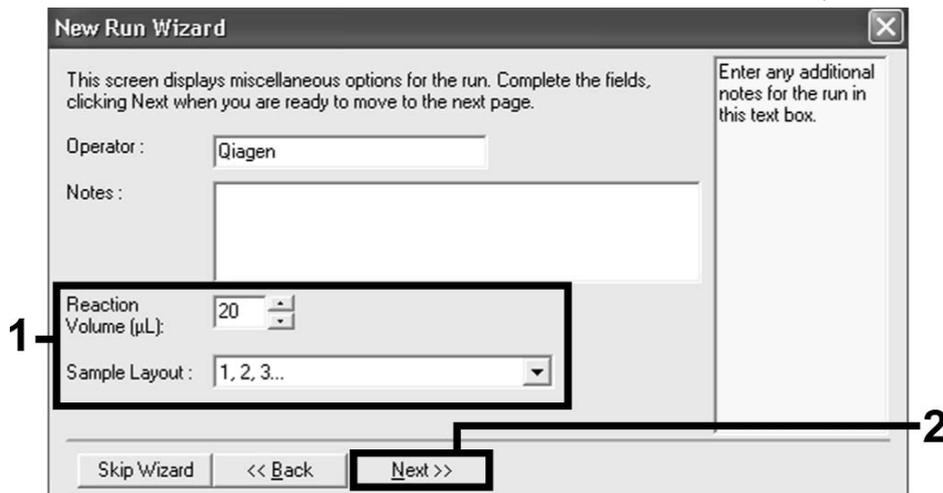

Figure 2. Setting the general assay parameters.
7. Select 20 for the PCR reaction volume and click “Next” (Figure 2).